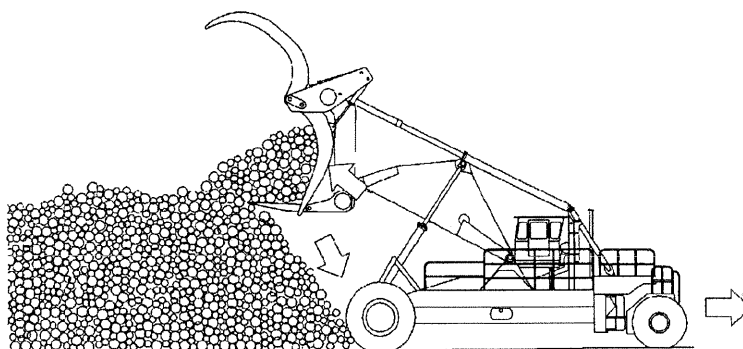

Fig 4-12
- Move up to the deck with the load lifted to the necessary height. Place the drive wheel tires tight against the bottom logs, as this firms up the deck and helps prevent logs from shifting when you place the new load on top. See Fig. 4-12.